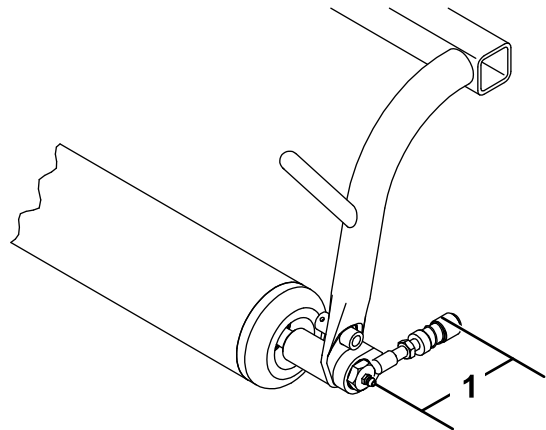

Figure 5
9. Adjust the ball joint receiver so that the distance between the grease screw and the opening in the ball joint receiver is 9.1 cm (3.6 inches) and tighten the jam nut to secure it in place (Figure 5).